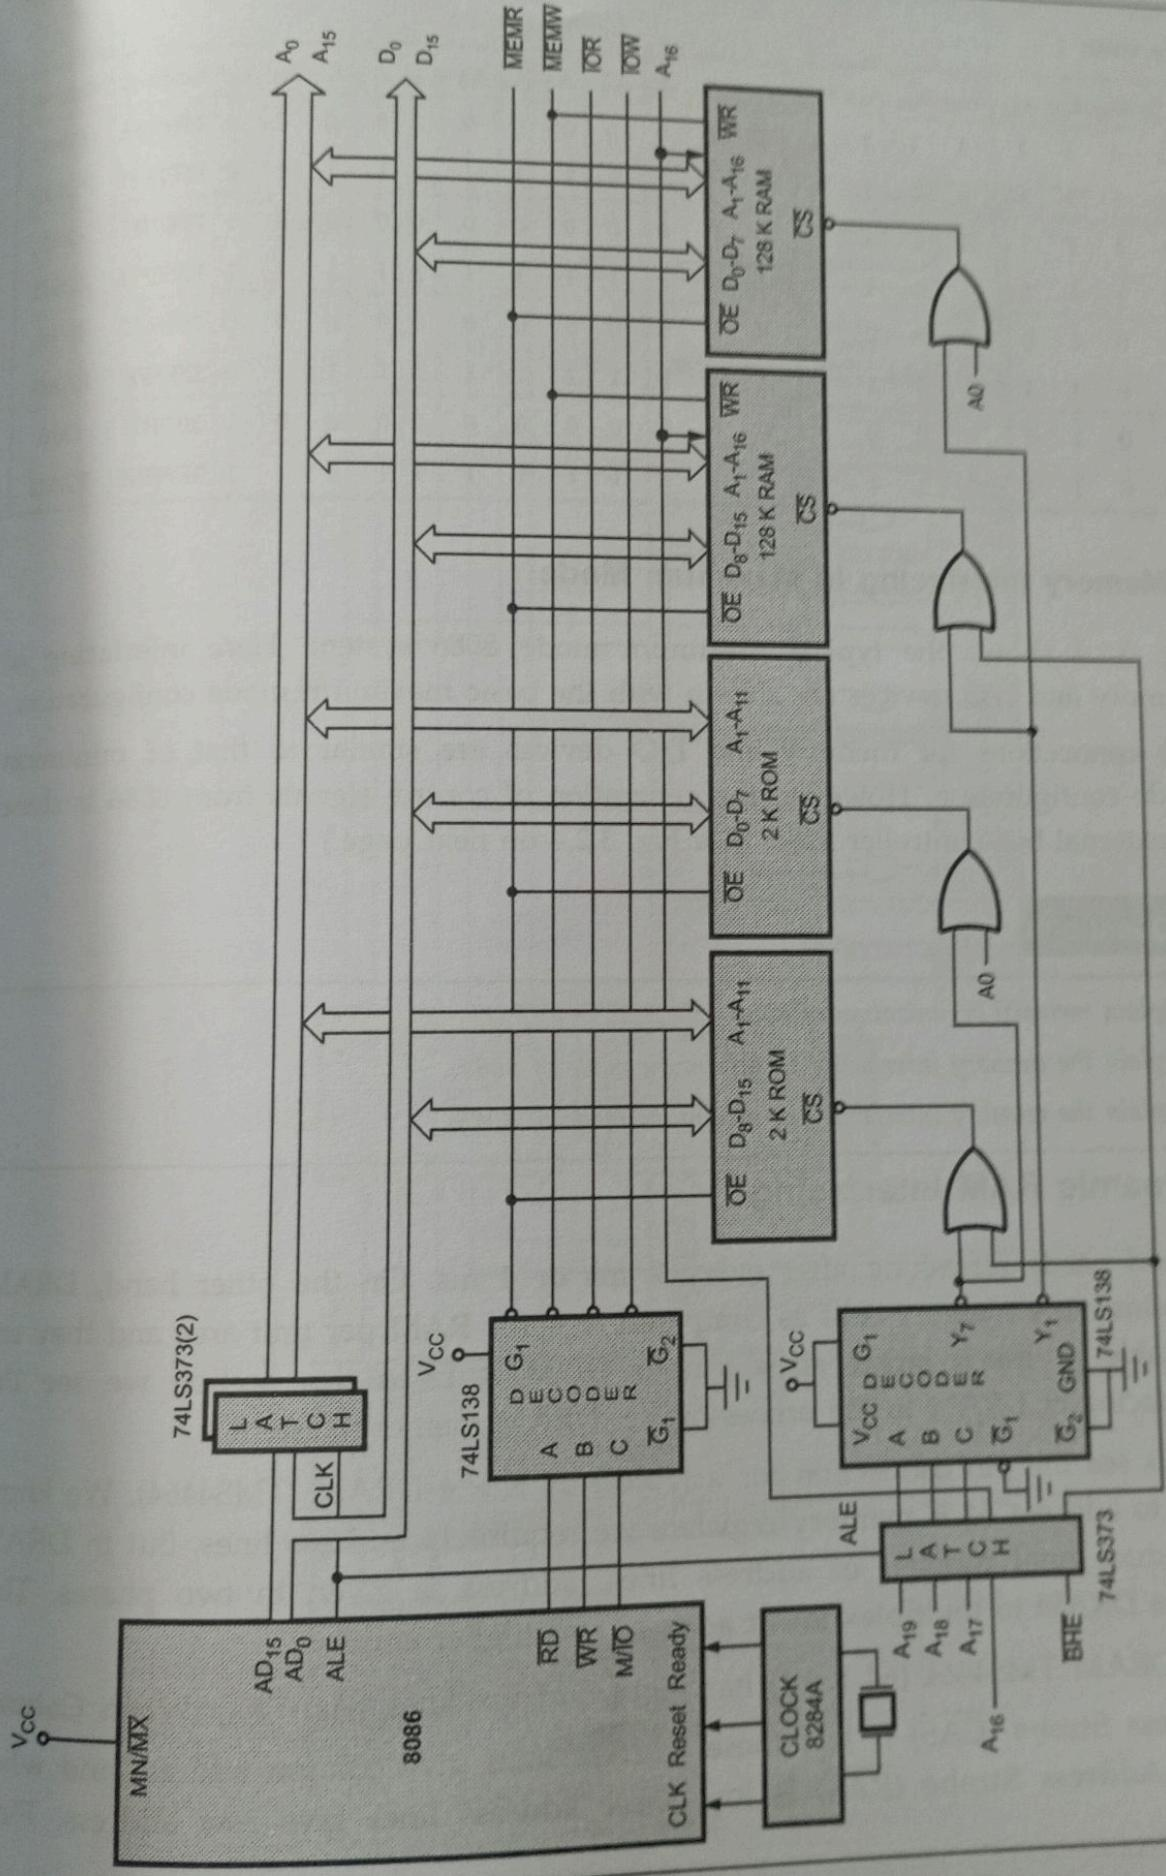

Fig. 3.2.3 Interfacing 128 K RAM and 2K ROM with 8086 in minimum mode
- As 64 kbyte RAM needs 16 address lines, A_1 to A_{16} lines are used and 2 K ROM needs 11 address lines, A_1 to A_{11} . A_0 and \overline{BHE} are used to select even and odd memory banks respectively. Fig. 3.2.3 shows the interface between 8086 and two memory chips. (See Fig. 3.2.3 on page number 3 - 17)